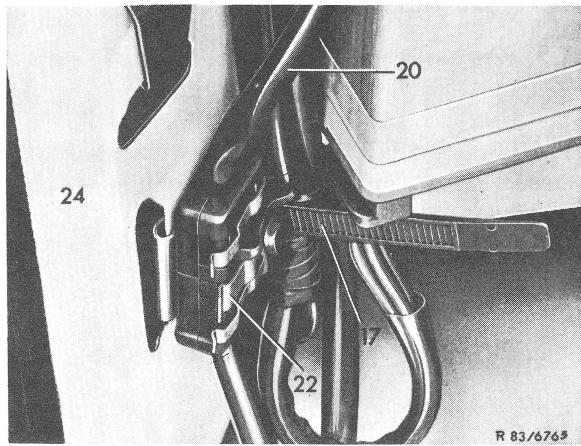

Figure 1
- 2 Pull double coupling on reinforcement (24) front right in engine compartment from clamp (22) and loosen plug connection (Fig. 1).
- 3 Expose line assembly (20) up to supplementary fan (4) while opening cable band (17) (Fig. 1 and 2).
- 4 Unscrew both fastening clips (14) at left and right on supplementary fan and remove supplementary fan.
- 5** Screw supplementary fan with two fastening clips (14) and combination screws (15) to struts (13).
- 6** Attach line assembly with cable band (17) to right-hand strut (13) and to reinforcement front.
- 7** Connect double plug of supplementary fan with double coupling of line assembly and mount with clamp (22) as shown in Fig. 1.
- 8** Check supplementary fan for performance by shorting the two flat plugs on temperature switch (3). Observe direction of rotation of fan.